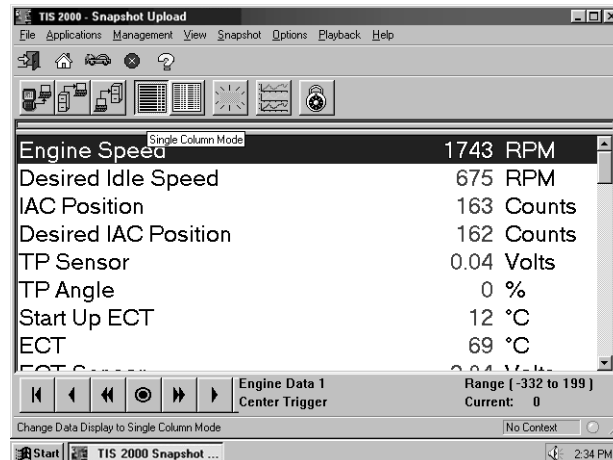

FIGURE 8-41. Single Column Mode on Snapshot Upload Screen
4. Select the appropriate scan tool and verify the Tech 2 connection to the terminal, then select OK (Figure 8-41).